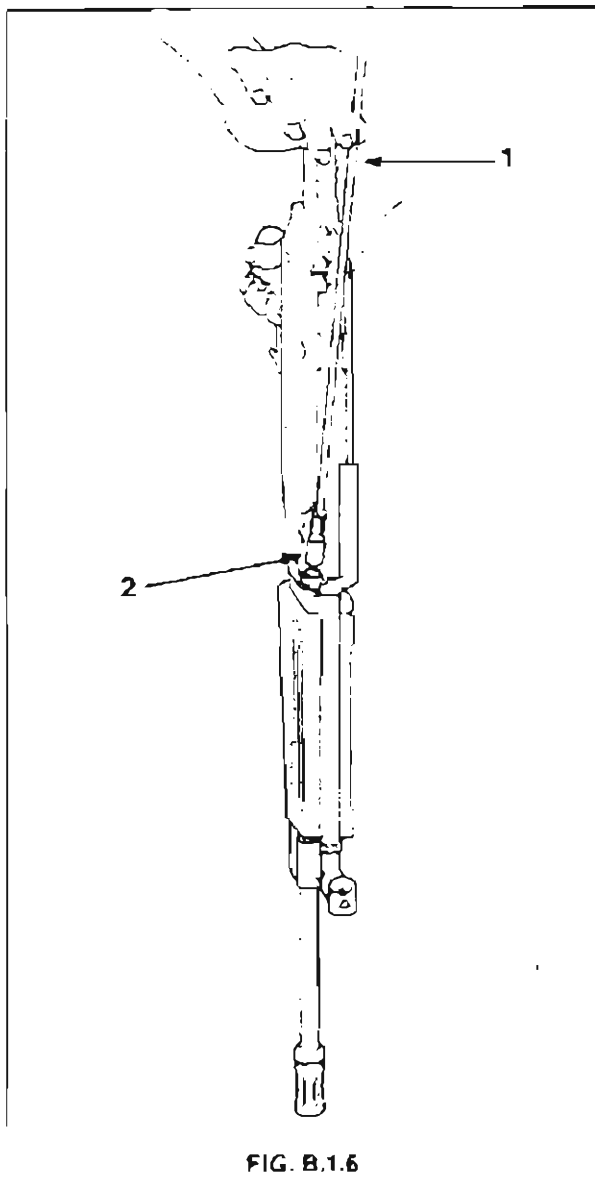

FIG. B.1.6
8. A barrel is serviceable if the bore gauge Φ 5.573 mm passes freely through barrel bore (gauge assembled to handle), when inserted from chamber end, with barrel held vertical. See Fig. B.1.6.